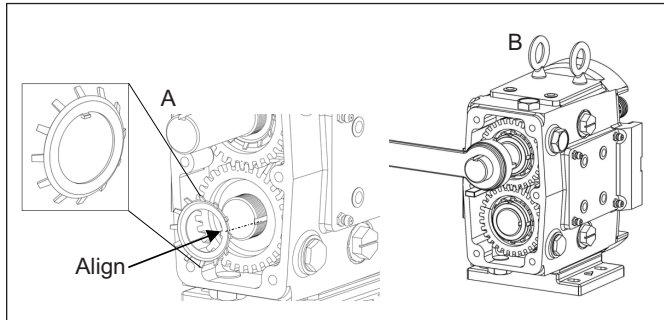

Figure 58. Installing Lock Washer and Lock Nut
- Install the lock washers on the shaft by aligning the tab inside the lock washer with the slot in the shaft (Figure 58, A). Lubricate the threads of the lock nuts and thread them on the shafts. Using a spanner wrench, tighten them to the specified torque in Table 7. Use a wedge (wood or plastic) between the gear teeth to keep the shafts from turning while tightening the lock nuts (Figure 58, B).